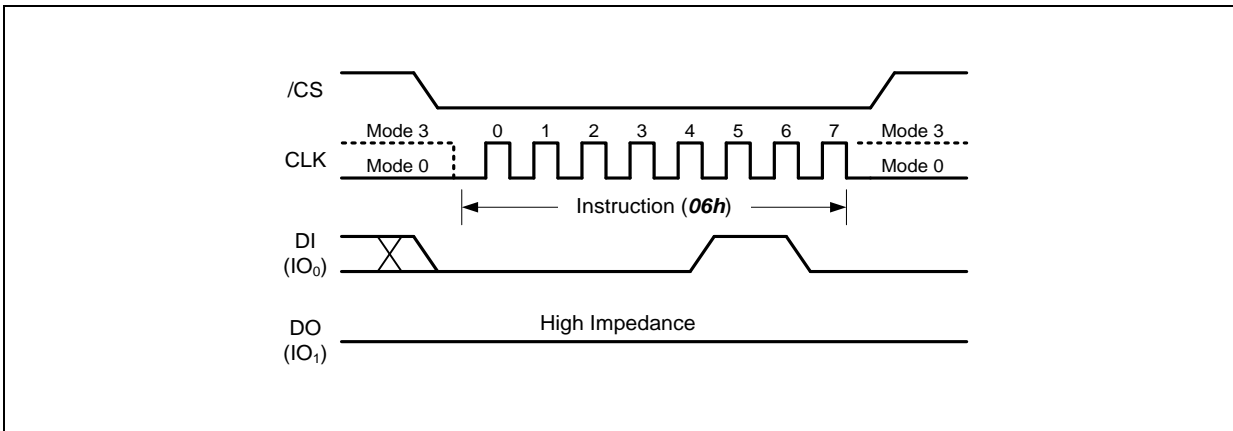

Figure 9. Write Enable Instruction
The Write Enable instruction (Figure 9) sets the Write Enable Latch (WEL) bit in the Status Register to a 1. The WEL bit must be set prior to every Page Program, Quad Page Program and Block Erase instruction. The Write Enable instruction is entered by driving /CS low, shifting the instruction code "06h" into the Data Input (DI) pin on the rising edge of CLK, and then driving /CS high.